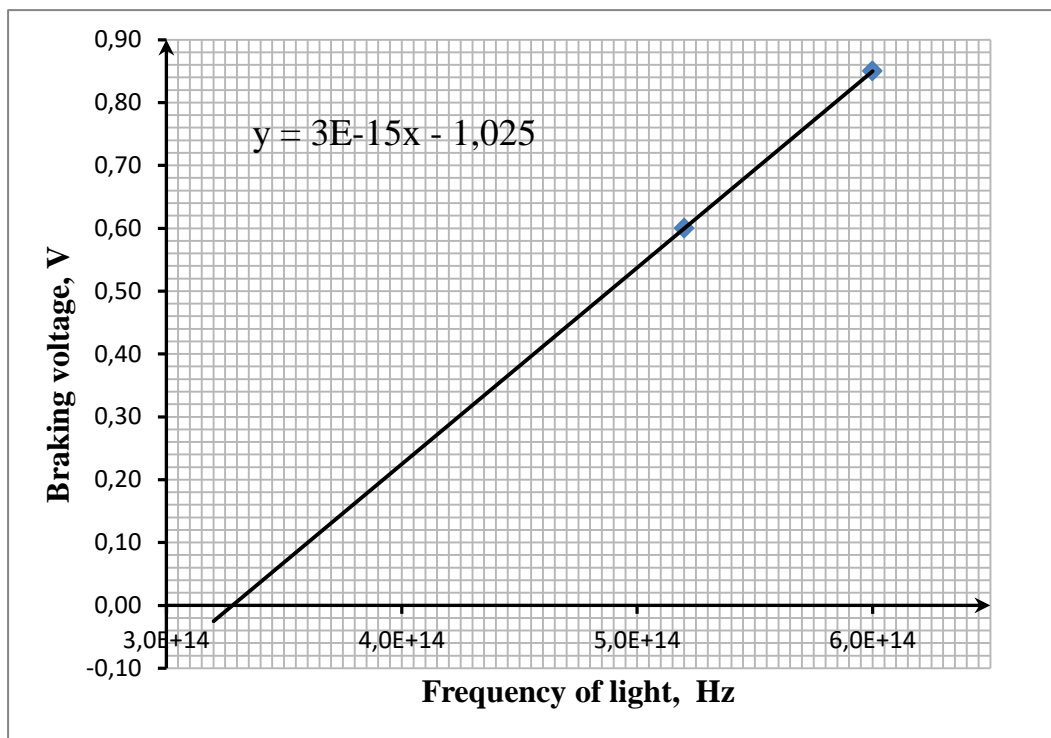

Fig. 5.6.3
3. Plot a graph of the dependence  $U_s = f(\nu)$  with the equation of the line (see Fig. 5.6.3) in Excel.